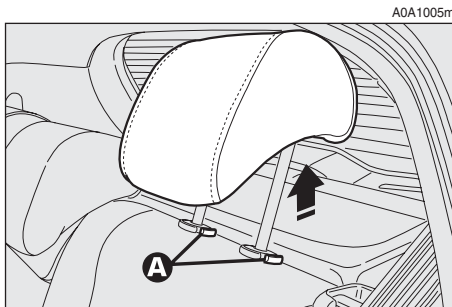

fig. 24
– raise the headrests to the maximum height and then press both the buttons (**A-fig. 24**) on the two supports side, then pull the headrests upwards and remove them;